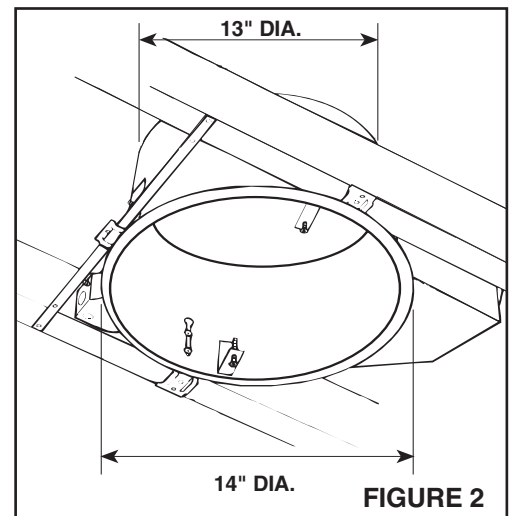

FIGURE 2
2. Refer to Figure 2. Position housing between joists with exhaust vent in desired direction.